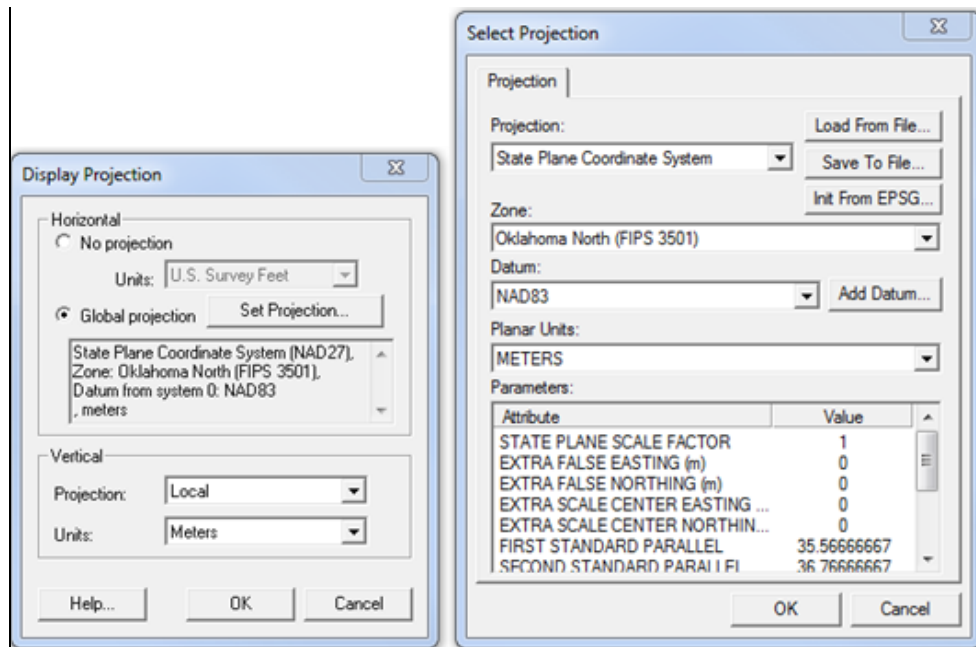

Figure 1. Display Properties and Select Projection dialogs
3. Set the *Horizontal* component to use a *Global projection*. This will bring up the *Select Projection* dialog (see Figure 1).